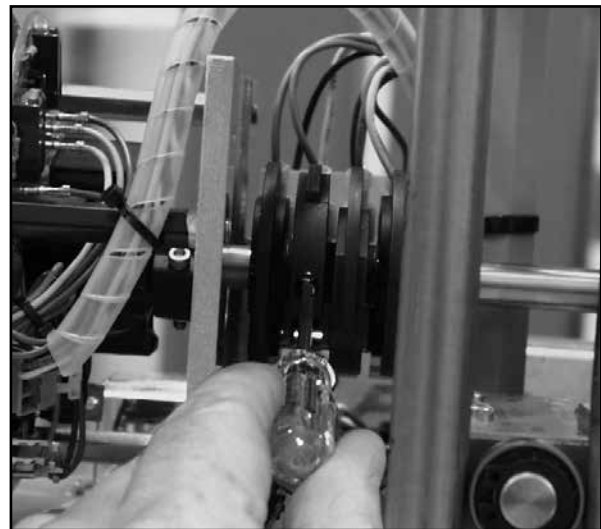

Figure 5
2. Use the electric Handswitch to drive the control shaft so that the EXT switch cam is accessible. Using a 7/64" hex wrench, loosen the screw so that the cam is just snug to the shaft. See Figure 5, page 15.